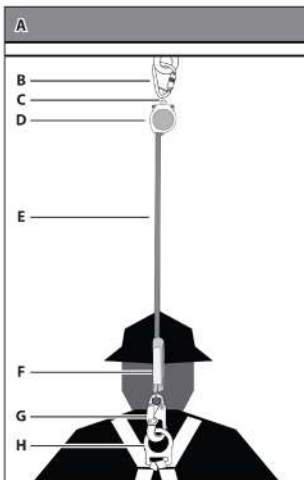

Figure 4 - Attaching Single-leg FT-X to Anchor
Step 3: Connect the leg-end connector of the SRL to the dorsal D-ring on the full body harness. See Figure 4.